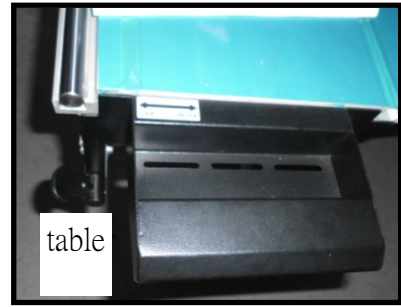

Fig. 49
2. Lock the sliding table into a stationary position. (Fig. 49)